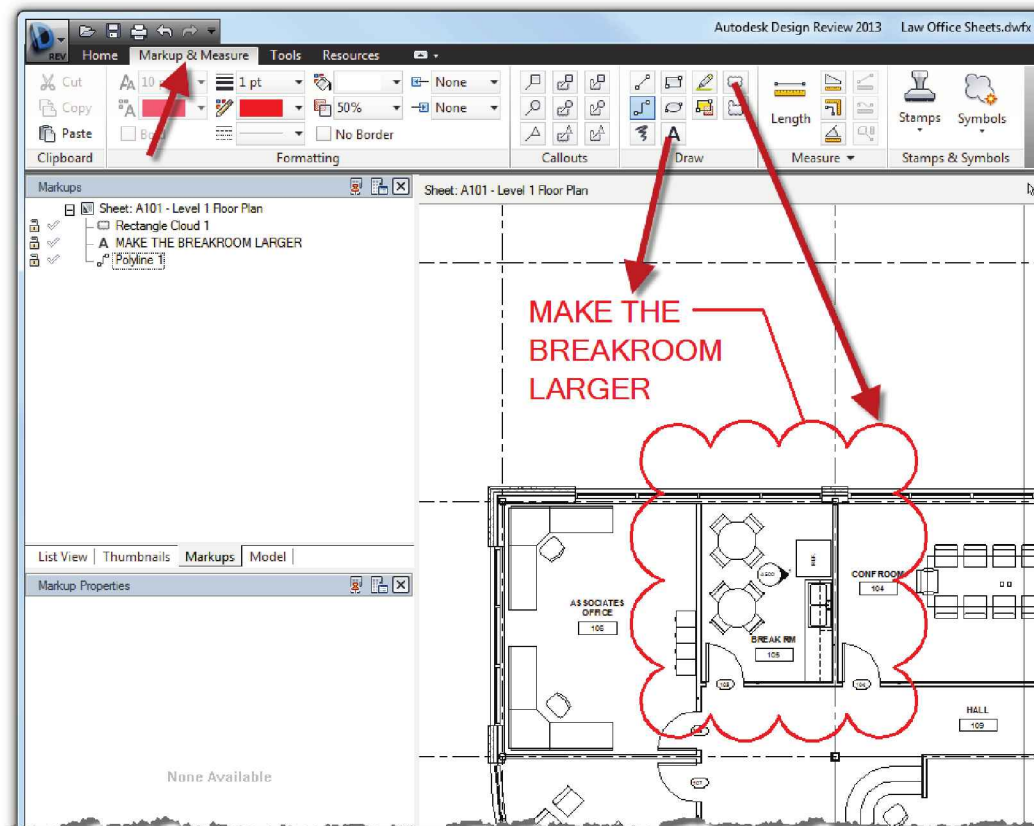

FIGURE 16-3.6 3D DWF sheets file with markups added
19. Use the *Cloud*, *Text* and *Line* tools from the *Draw* panel to add the markups shown in Figure 16-3.6.